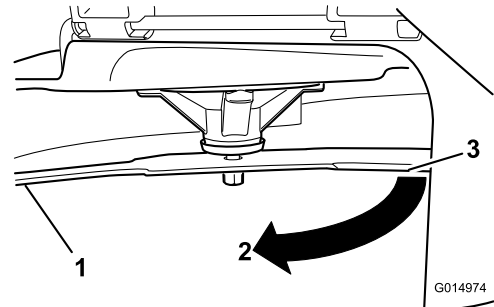

Figure 93
3. Measured distance between blade and the surface (A)
4. Rotate the same blade 180 degrees so that the opposing cutting edge is now in the same position (Figure 93).